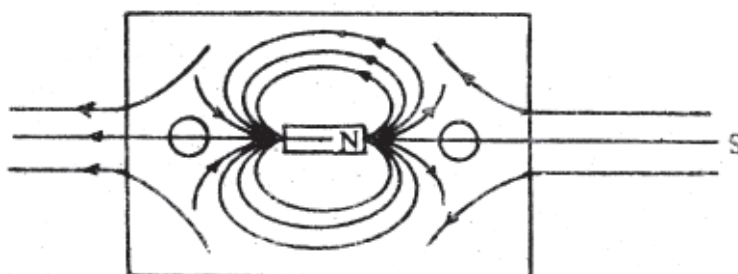

Fig. 28.8
- (ii) Now follow the same procedure as in the last experiment. The lines of force will look as shown in Fig. 28.8 above.